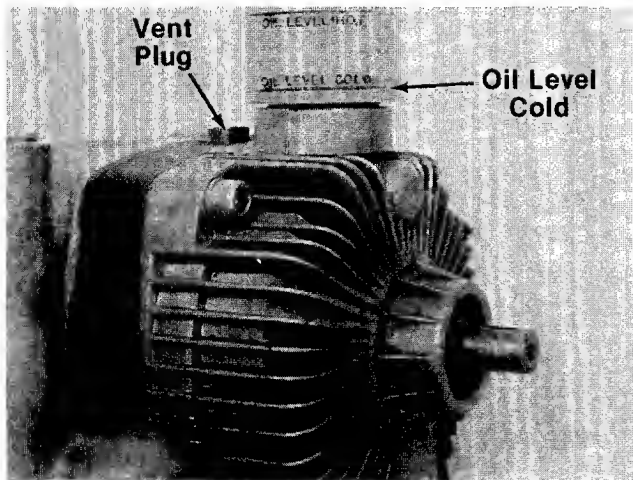

FIGURE 14.
The transmission fluid level should be checked prior to initial use. The level should not be above the COLD mark which is about 1/4" from the bottom of the reservoir/expansion tank. See figure 14.
3. Check the oil level in the reservoir/expansion tank. See figure 14.